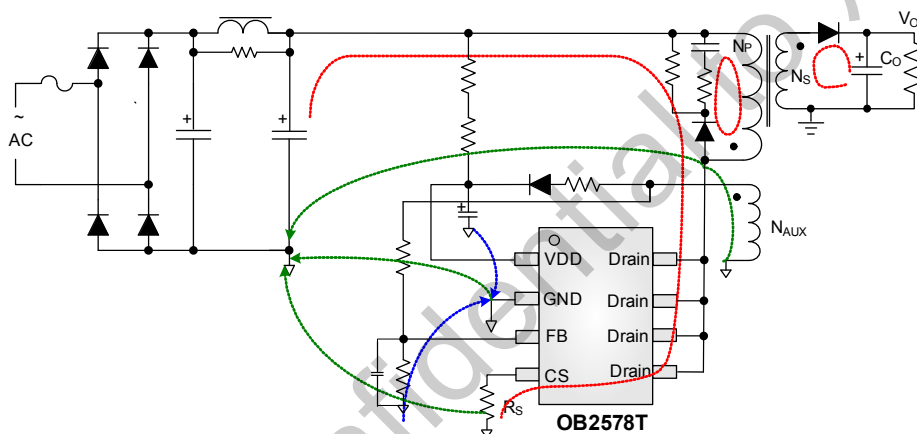

Fig.6 Fly-back Schematic with OB2578T
rectifying loop (Red wire as shows in Fig.6).
**Bypass Capacitor and FB Divider Resistor:** The bypass capacitor on VDD and the FB divider resistor should be placed as close as possible to pin out. And the negative node of VDD capacitor and the FB down resistor should be connected directly to the IC GND pin before single point connected to the negative node of the output capacitor. (Blue wire as shows in Fig.6)